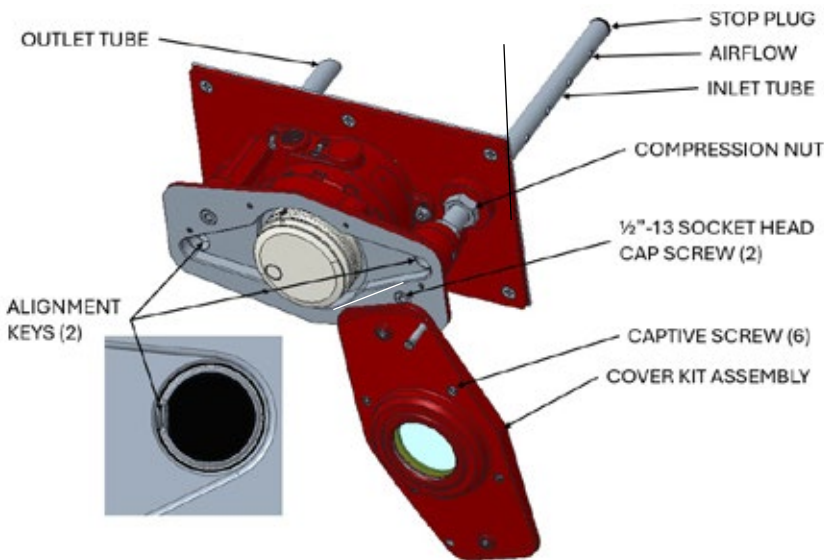

Figure 10—Q5017R Assembling front cover to plate assembly
2. Lift the cover from the base and swing it down to view the alignment keys for the inlet and outlet tubes, and to access the two socket head cap screws in the interior (Figure 10).